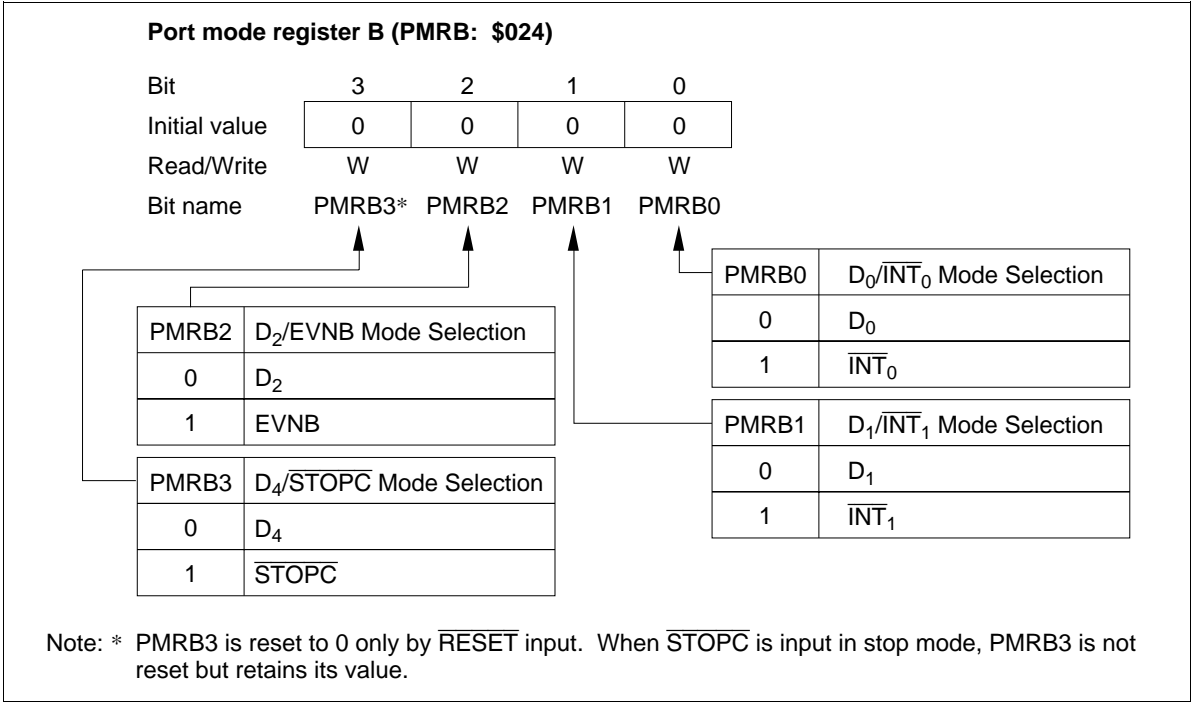

Figure 39 Port Mode Register B (PMRB)
- Port mode register B (PMRB: \$024): Write-only register that selects D₂/EVNB pin function as shown in figure 39. It is reset to \$0 by MCU reset.